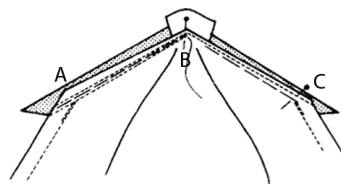

Figure 39
2. With right sides together, match and pin gusset to slashed opening of front bodice. Be sure to align seam lines of opening and gusset correctly. Baste, but do not remove pins from point. With garment side up, using a shorter stitch, machine stitch from edge A to point B, take one stitch across point B, stitch to edge C. Press seams toward garment (Figure 39).